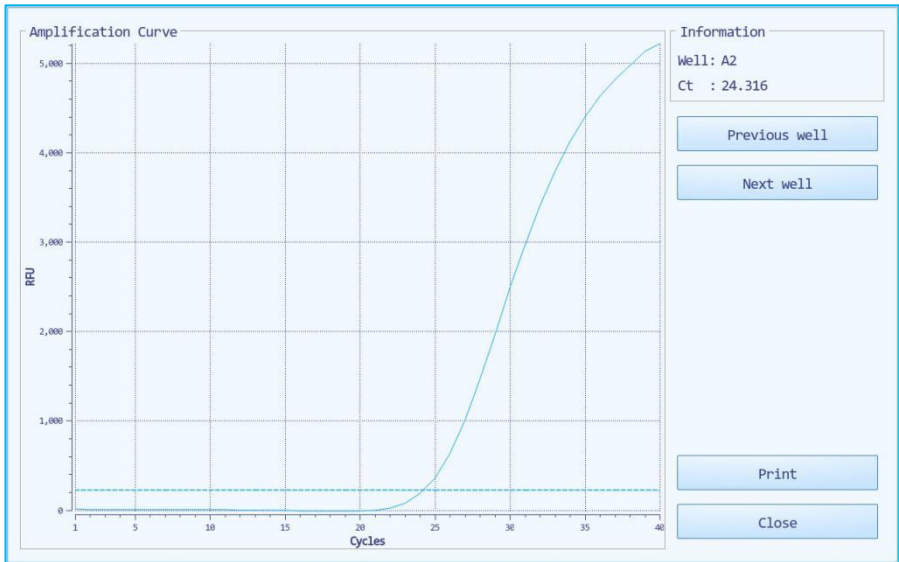

Figure F-4.2 Run Monitoring Diagram - Amplification Result
- **Amplification Result:** Users can press any well on the fluorescence heat map to check the amplification result of this sample, as shown in figure F-4.2.